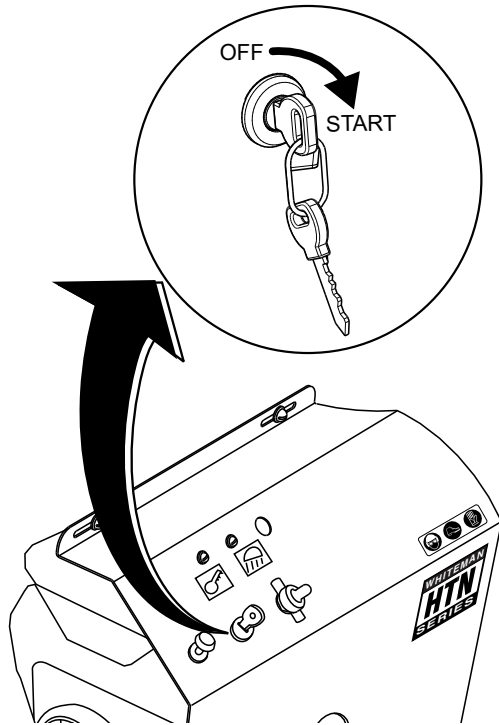

Figure 15. Ignition Key
- Keeping your foot **off** the right foot pedal, turn the ignition key (Figure 15) clockwise to start the engine. Be sure to start the engine at **idle** (without touching the foot pedal). Once the engine starts, release the ignition key.